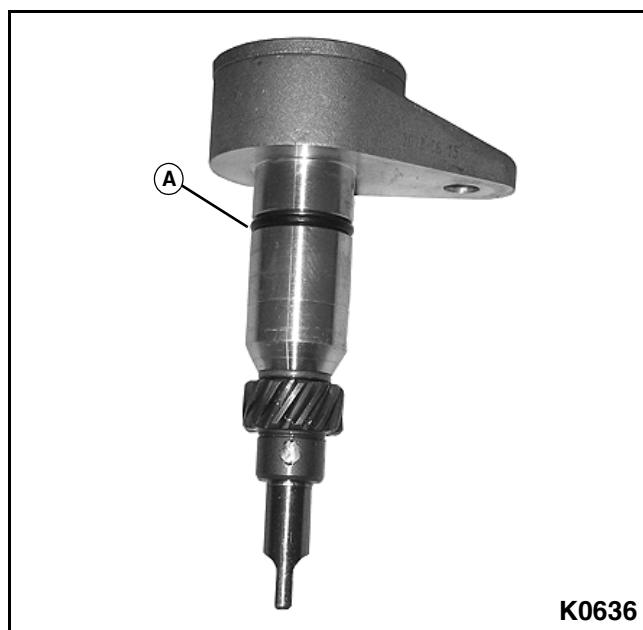

Figure 3-106
1. Lubricate oil pump drive sealing O-ring (A) with clean engine oil. **See Figure 3-106.**